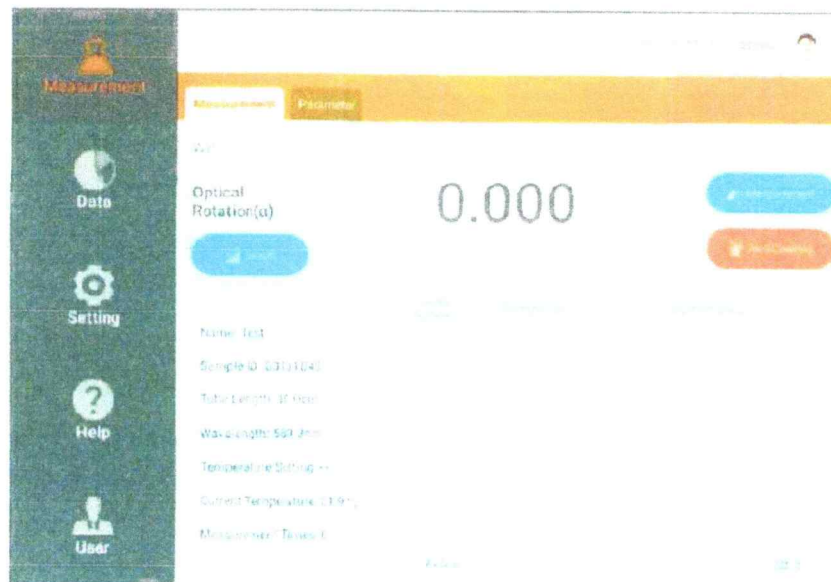

Fig 43
- Click the menu bar in the upper left corner of the instrument interface and select "Data" in the popup frame, as shown in Fig 43